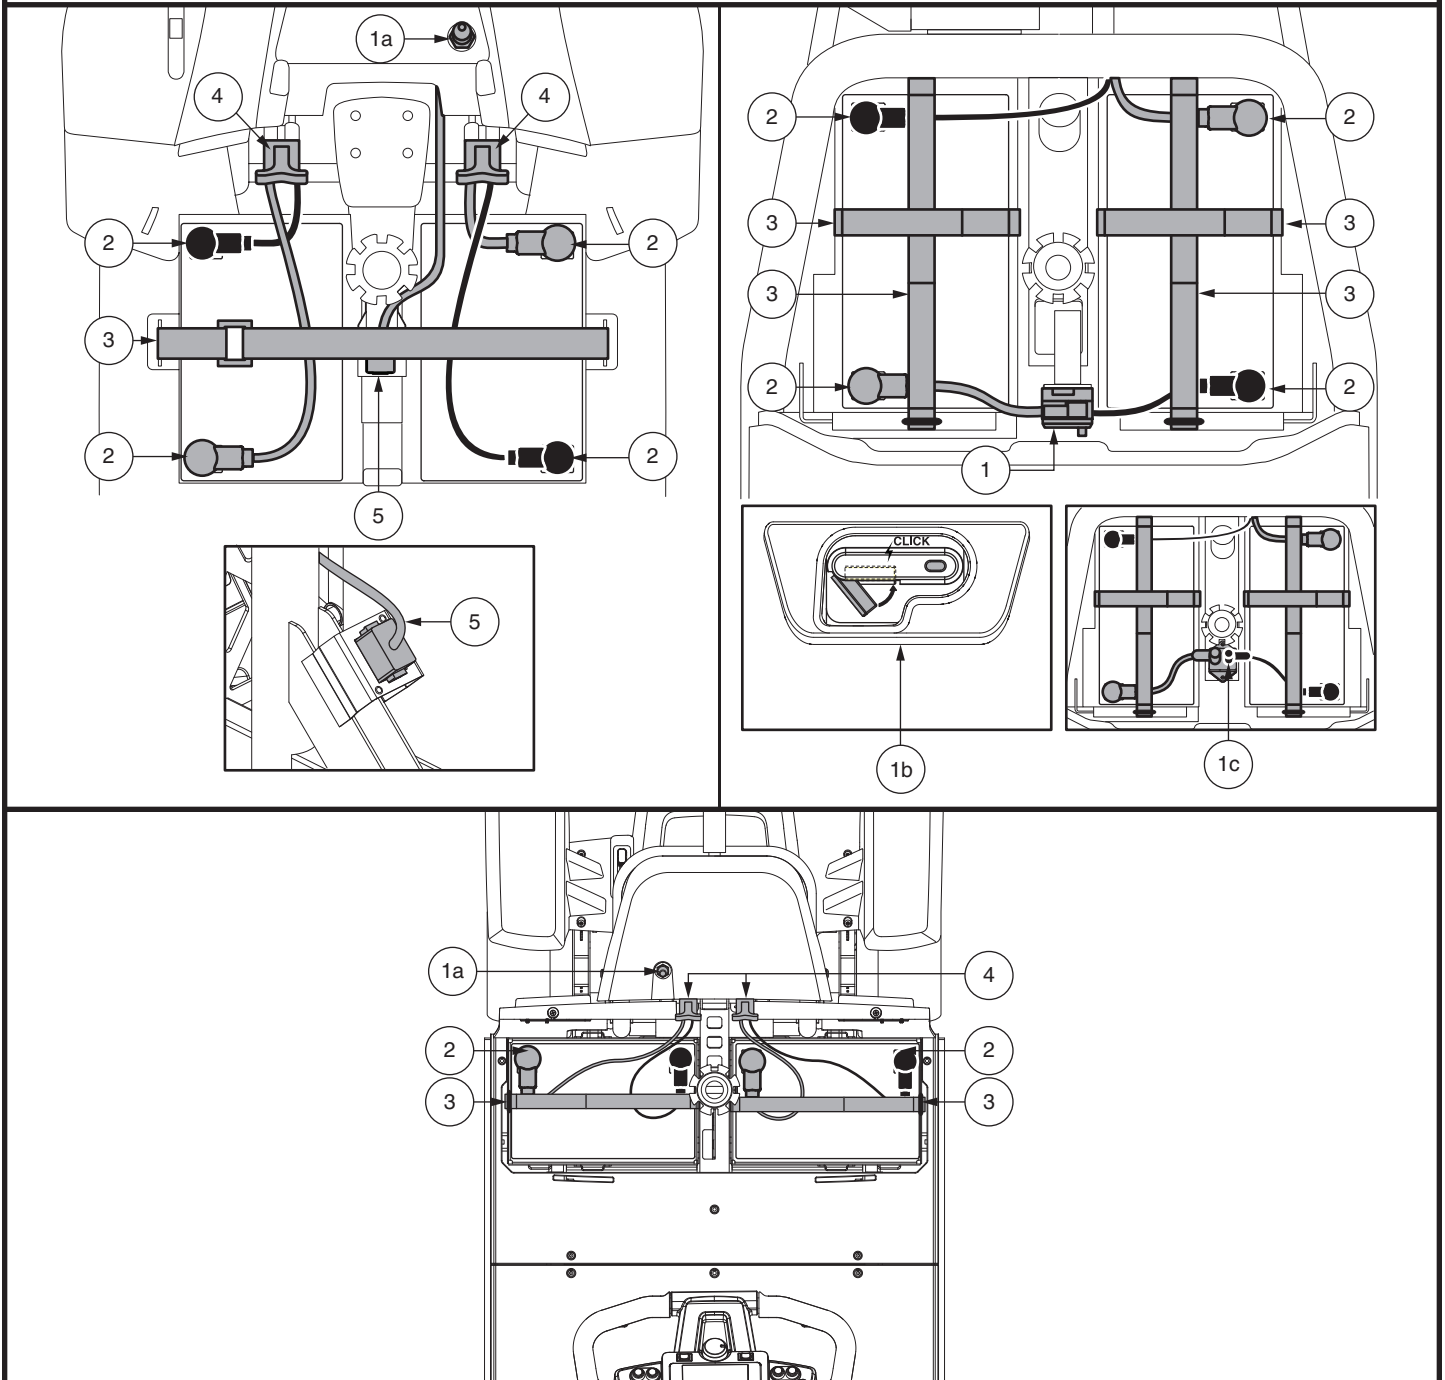

Figure 16. Battery Removal/Installation Terminals and Connections
3. For all models EXCEPT 614 and 714, disconnect the front-to-rear harness. Unplug both battery harnesses by pulling each harness out of its mating plug. See figure 16.
6. Place a new battery in each battery well. Face the battery terminals of each battery away from the seat post with the positive (+) and negative (-) battery terminals positioned as shown in **figure 16**.